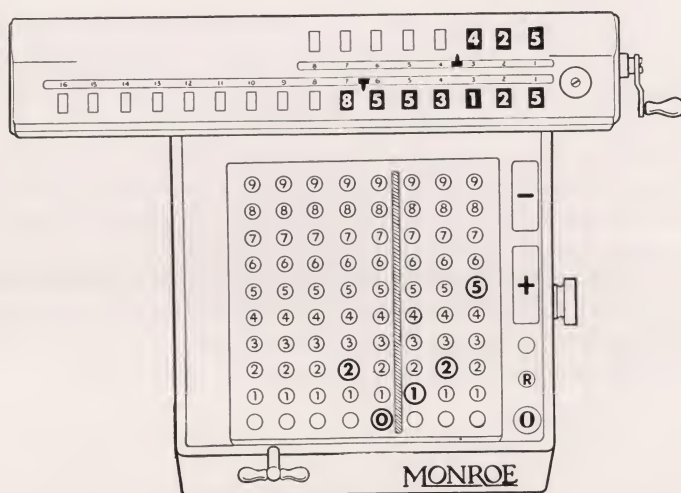

Figure 8
Step 3—The result in the lower dials will be 8.553125, correctly pointed off. See Figure 8. If the result is dollars and cents it would be copied from the lower dials as \$8.55, ignoring the terminal digits 3125. If these digits were 5125 instead of 3125, the half cent would be picked up and the result would be copied as \$8.56 instead of \$8.55.